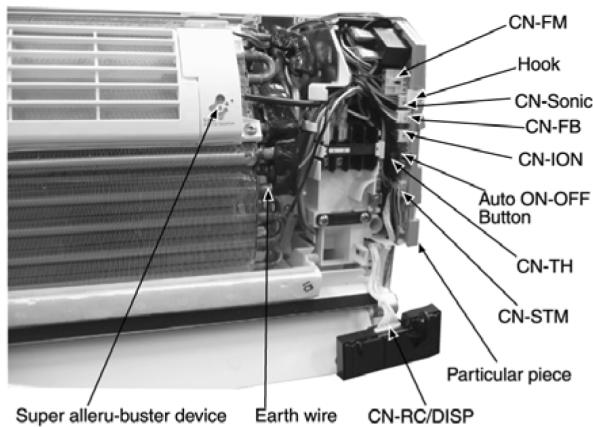

Fig. 4
- Remove the particular piece (Fig. 4)
- Release CN-FM connector (Fig. 4)
- Release CN-Sonic connector (Fig. 4)
- Release CN-FB connector (Fig. 4)
- Release CN-ION connector (Fig. 4)
- Release CN-TH connector (Fig. 4)
- Release CN-STM connector (Fig. 4)
- Release CN-REC/DISP connector (Fig. 4)